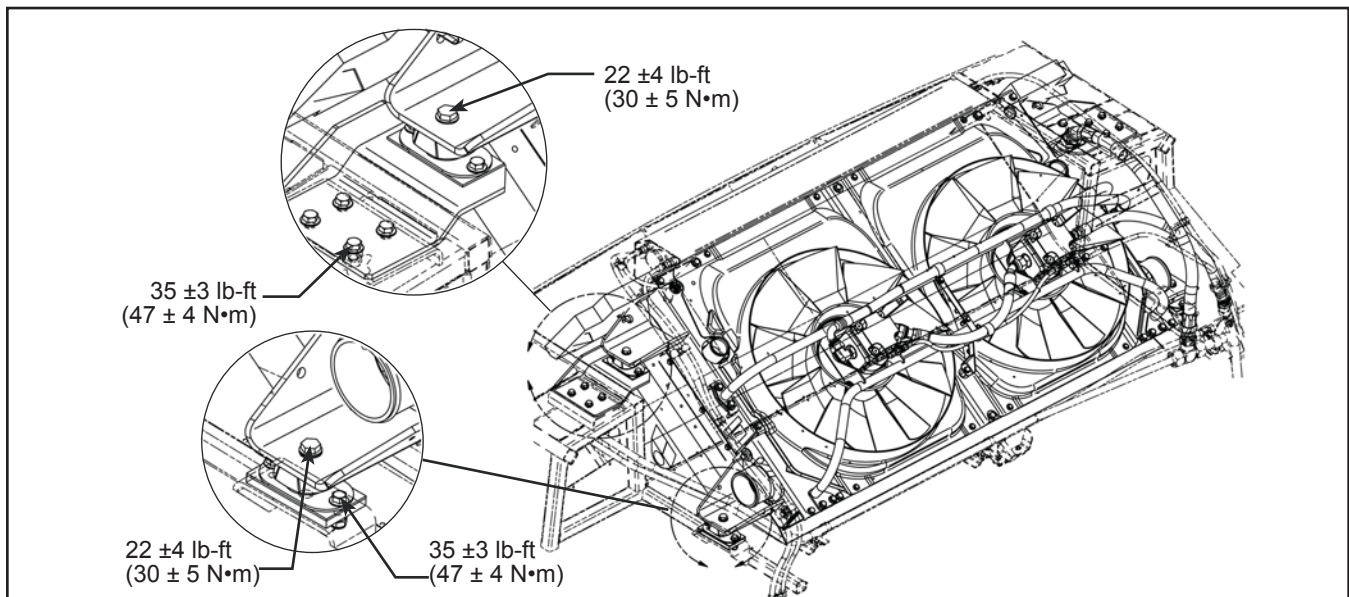

Figure 13 - Radiator Installation and Torque Value
- 1.29. Repeat the tightening sequence of step 1.27 by applying a tightening torque of 35 ft-lb (47N•m) on the isolator bolts. See Figure 13.
Radiator mounting support holes and isolators might not align correctly. To obtain proper alignment, loosen the isolator anchor bolts and move the isolator in such a way to line up with the mounting support holes. Torque the isolator anchor bolts to 35 ± 3 lb-ft (47 ± 4 N•m). See Figure 13.
- 1.52. Apply the torque specified in Figure 13.